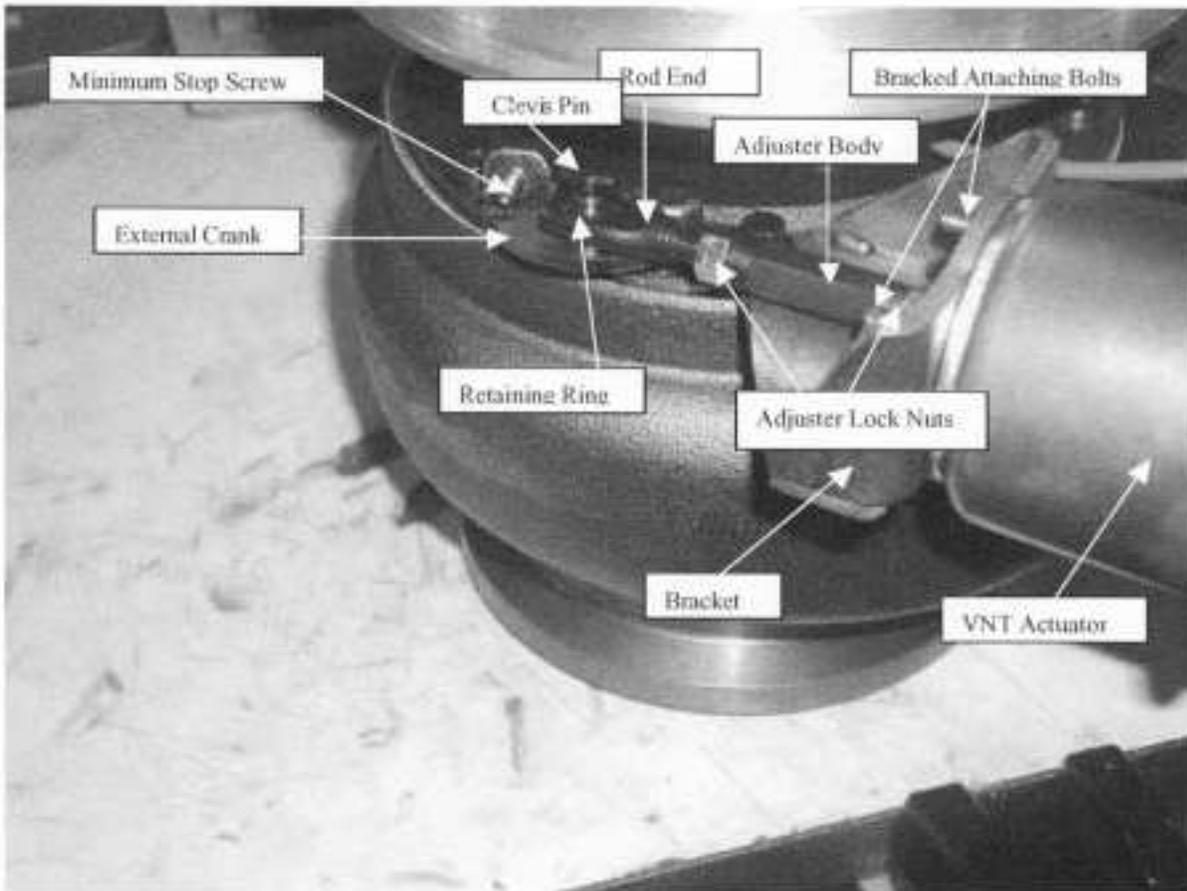

Figure 1
VNT Actuator Removal (Refer to Figure 1)
7. Rotate the ***adjuster body*** (see Figure 1) until a 0.004 inch \pm 0.001 (0.10 \pm .0250 mm) gap is achieved between the stop screw and clevis. Without allowing the adjuster body to rotate, tighten the lock nuts to 6.2 – 7.9 N·m (55 – 70 in-lbs).